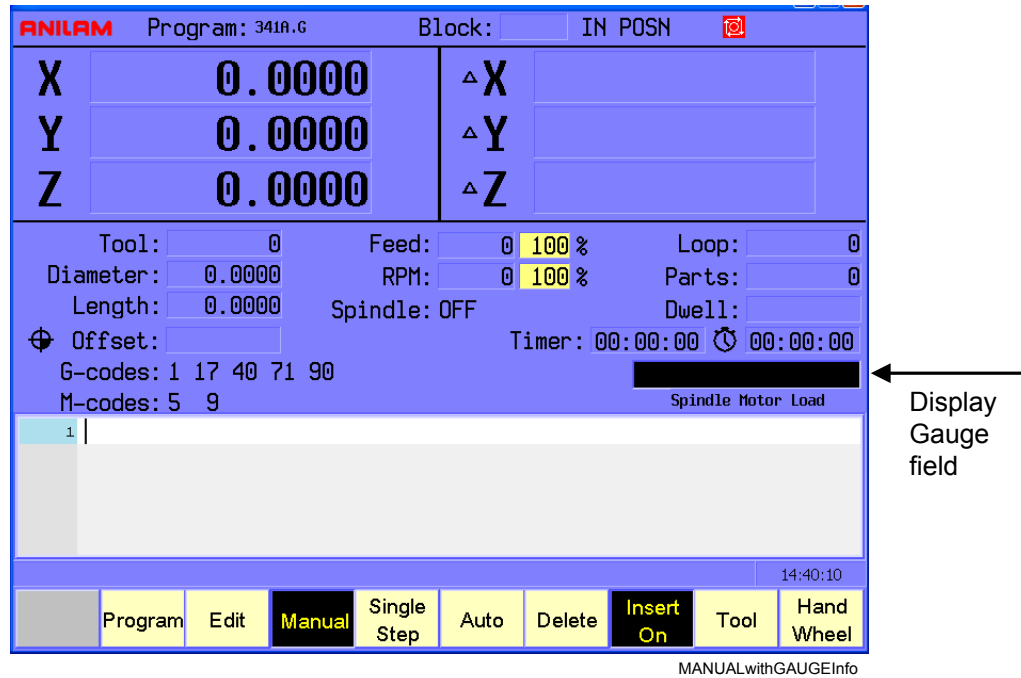

Figure 3-5, Manual Screen with Gauge Display
8. Press the **Display Gauge (F1)** soft key to display the Gauge information on the Manual screen (refer to Figure 3-5, Manual Screen with Gauge Display). Refer to **Table 3-1**.